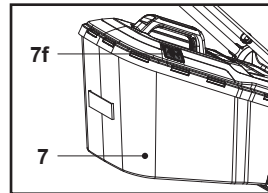

Fig. 14
2. When the hatch (7f) is closed, the grass catcher (7) is full and must be emptied (Fig. 14).